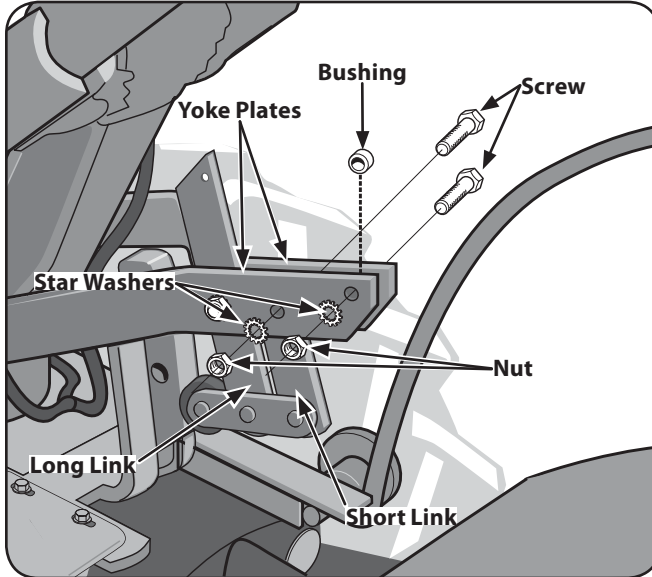

Figure 3-6
2. Remove both sets of nuts, star washers, screws, and one bushing from the yoke plates. See Fig. 3-6. There is a bushing inside the short link. Be careful not to lose it when removing screw.